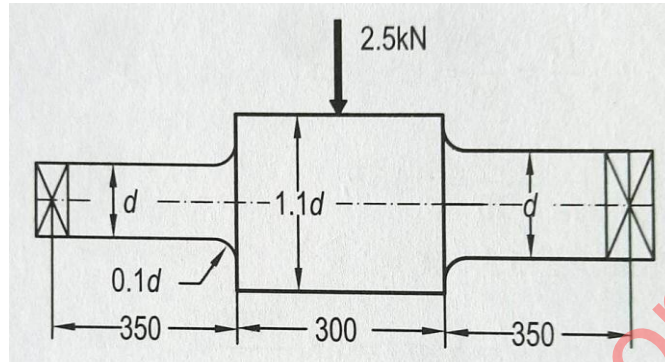

Figure 1
- b) A beam supporting a load of 2.5 kN is shown in figure 1. The beam is made of brittle material, with an ultimate tensile strength of 300 N/mm². The factor of safety is 3. Determine the dimensions of the beam. [5+5]